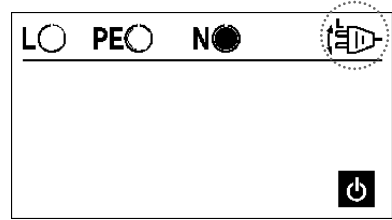
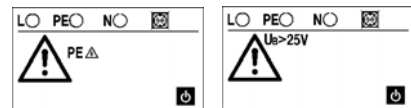

Figure 5.6.5: Display for phase position N to L/L1 and L to N/L2
Figure 5.6.6: PE error display
If the test instrument shows the pin assignment in compliance with Figure 5.6.5, i.e. the symbol "turn mains plug" (5) is blinking, the test may not be started. When starting the test, an acoustic signal is audible. Then, the shockproof plug has to be turned or L and N have to be exchanged for the test leads connected.
► For socket testing touch contact electrode 'PE' (21).
If the instrument displays the symbols (14), 'socket error' (4), and 'PE error' (16), or 'contact voltage' (15) as shown in Figure 5.6.6, the protective conductor (PE) is open, or a voltage is present! This is a fatal error and must immediately be eliminated!